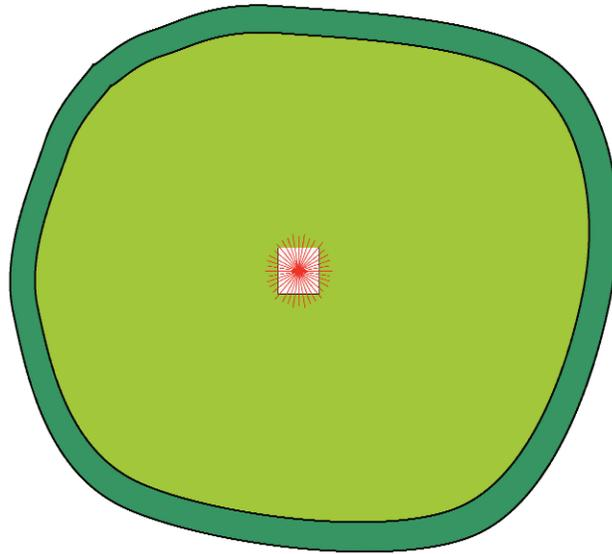

Figure 2.9 Place the template in the center of the putting green.
Step 2. Locate a central point within the area to be measured. Place the template on this location and measure the distance from the central point to the edge of the area (Fig. 2.9). Make 18 (every 20°) to 36 (every 10°) measurements. The greater the number of measurements, the more accurate the estimate will be.